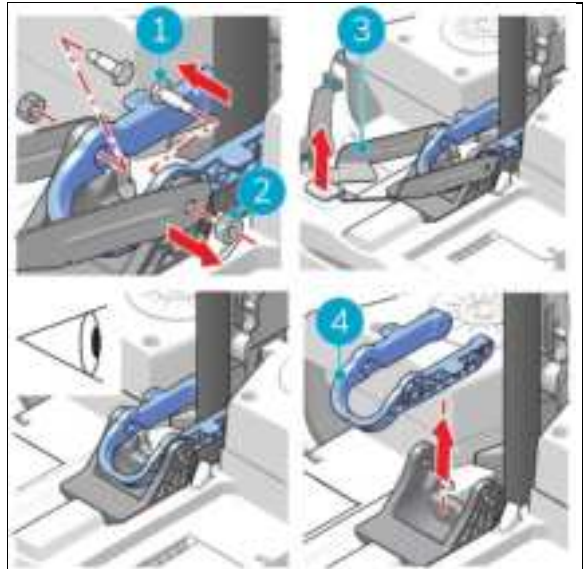

Figure 13
3. Remove the nuts (Figure 13, pos. 1) from the bolts (Figure 13, pos. 2).